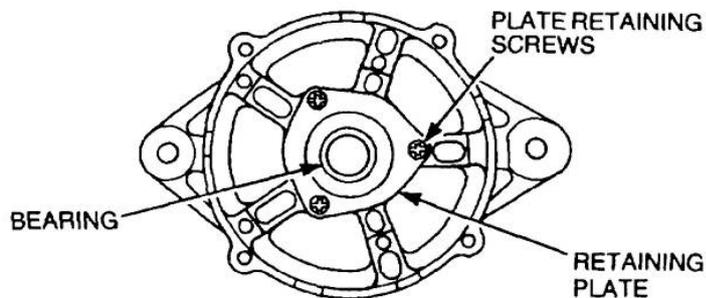

Figure 313 Removal of the Front Cover Bearing
- f. Remove the three screws and washers securing the bearing retaining plate to the front cover (Figure 313). Remove the plate, then using a suitable press and arbor, remove the bearing.